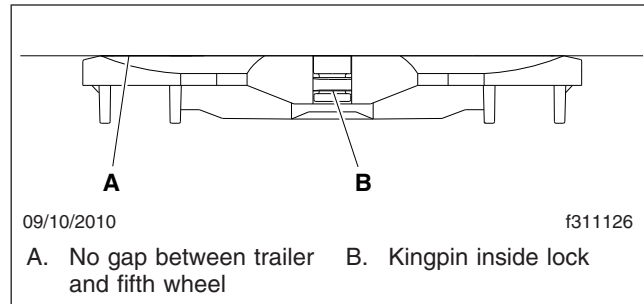

Fig. 17.6, Coupling Inspection
8. Perform a coupling inspection, checking that there is no gap between the bottom of the trailer and the fifth wheel, and that the kingpin is securely locked. See Fig. 17.6
- Apply the tractor parking brake, then perform a physical check for positive kingpin lockup, and that there is no gap between the trailer and the fifth wheel. See Fig. 17.6.